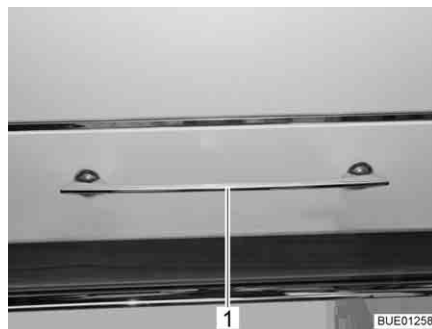

Fig. 54 Furniture flap with release handle
- Press the release handle (Fig. 54,1) down and keep it pressed.